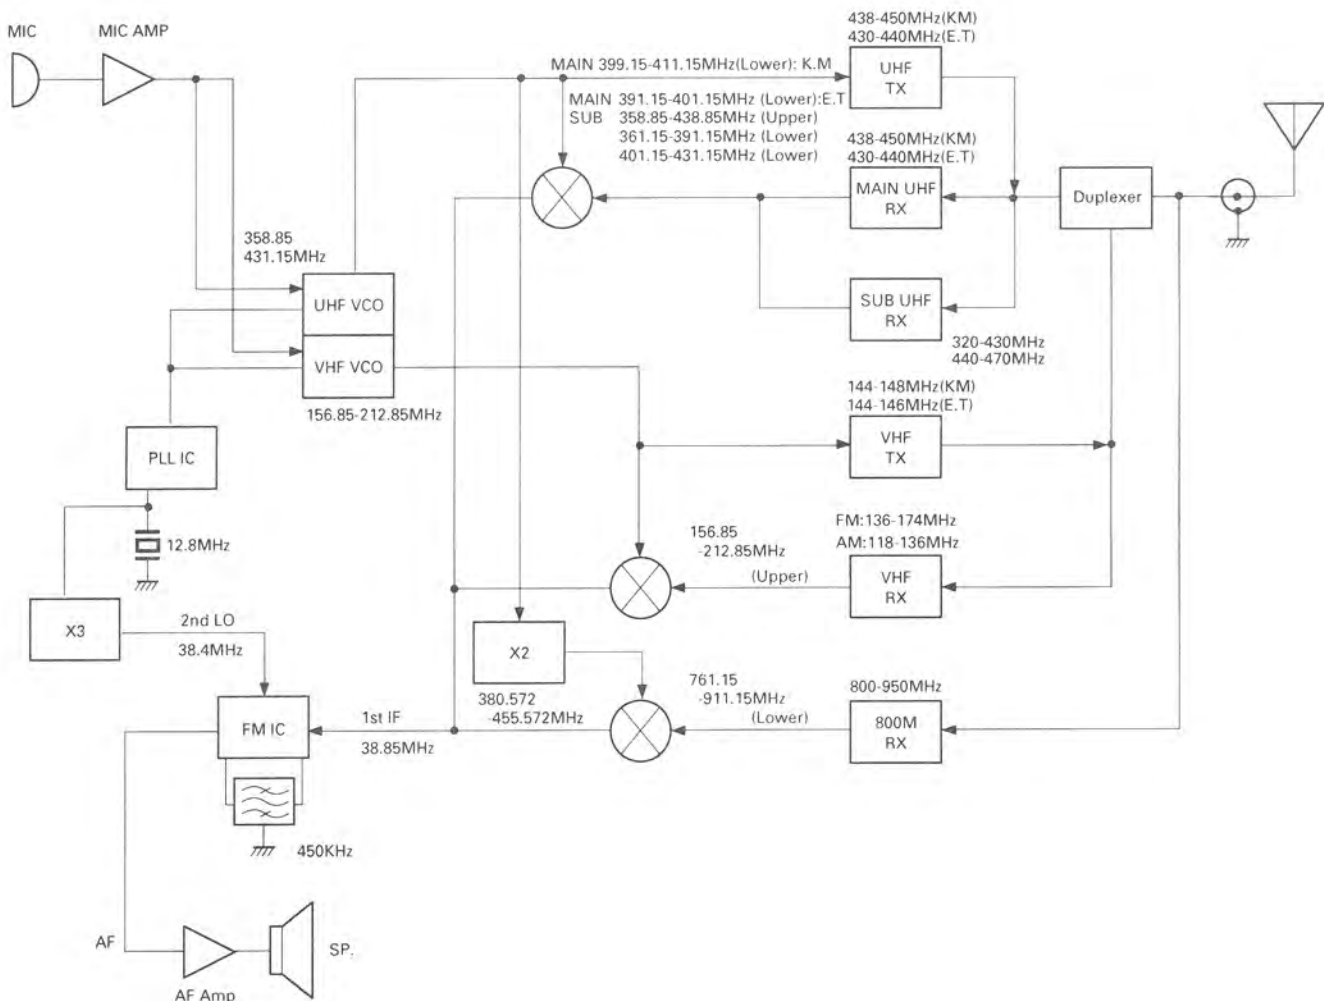

Fig.1 Frequency configuration
- The frequency configuration is shown in Figure 1 and Table 1.